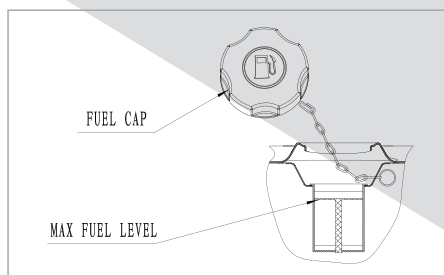

Fig 6
1. Slowly add fresh, regular unleaded gasoline containing 10% or less ethanol to the tank until it reaches the Red fuel level indicator of the fuel screen. DO NOT overfill. A minimum of ¼ in. (6.4 mm) of space left in the tank is required for gasoline expansion. Fig 6